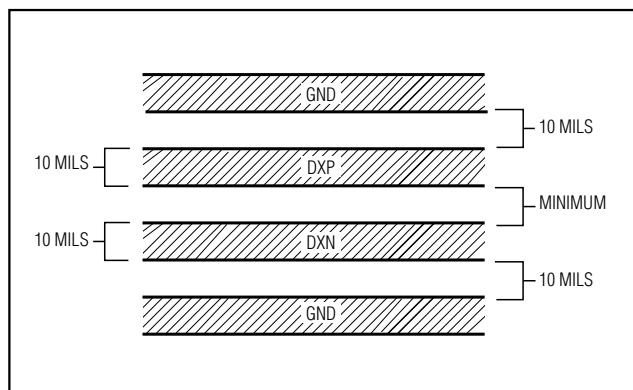

Figure 6. Recommended DXP/DXN PC Traces
- 3) Route the DXP and DXN traces in parallel and in close proximity to each other, away from any higher voltage traces, such as 12VDC. Leakage currents from PC board contamination must be dealt with carefully since a 20MΩ leakage path from DXP to ground causes about 1°C error. If high-voltage traces are unavoidable, connect guard traces to GND on either side of the DXP-DXN traces (Figure 6).
- 4) The 10-mil widths and spacing recommended in Figure 6 are not absolutely necessary, as they offer only a minor improvement in leakage and noise over narrow traces. Use wider traces when practical.